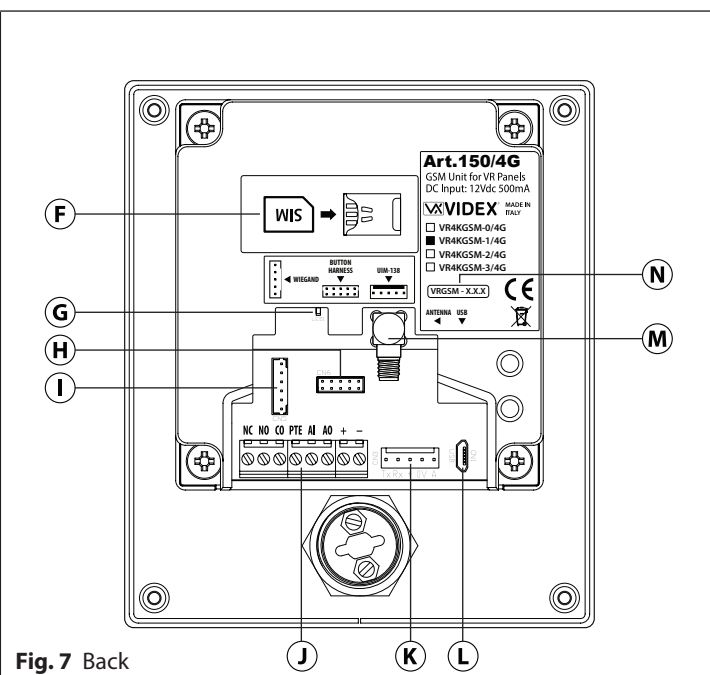

Fig. 7 Back
The micro-USB connection (**Fig.7**, ⓓ) allows the **VR4KGSM/4G** module to be connected to a laptop/PC for ease of programming (refer to page 24 for connecting the GSM module to a laptop/PC). Further information on programming using the GSM SK PC software can be found in the following manual **GSM SK_66251720-EN_V2-2** (or later).
The UIM-138 connection (**Fig.7**, ⓔ) allows the **VR4KGSM/4G** module to be connected to the display interface module, the **VR4KDM**, see **Fig.14**, page 18 for connecting the GSM module to a **VR4KDM** module.
The Wiegand connection (**Fig.7, ①**) allows for a Wiegand proximity reader, the **VR4KPPM**, to be connected to the **VR4KGSM/4G** module, see **Fig.16**, page 19. Further information on programming proximity fobs/cards can be found on pages 46 - 48 of this manual.
The button harness connection (**Fig.7, ②**) allows for the pre-wired button harness to be connected directly to any onboard VR buttons on the **VR4KGSM/4G** module and/or **VR4K series** button modules (described on pages 6 and 7). For complete button harness wiring refer to **Fig.3** and the button harness table on page 7.